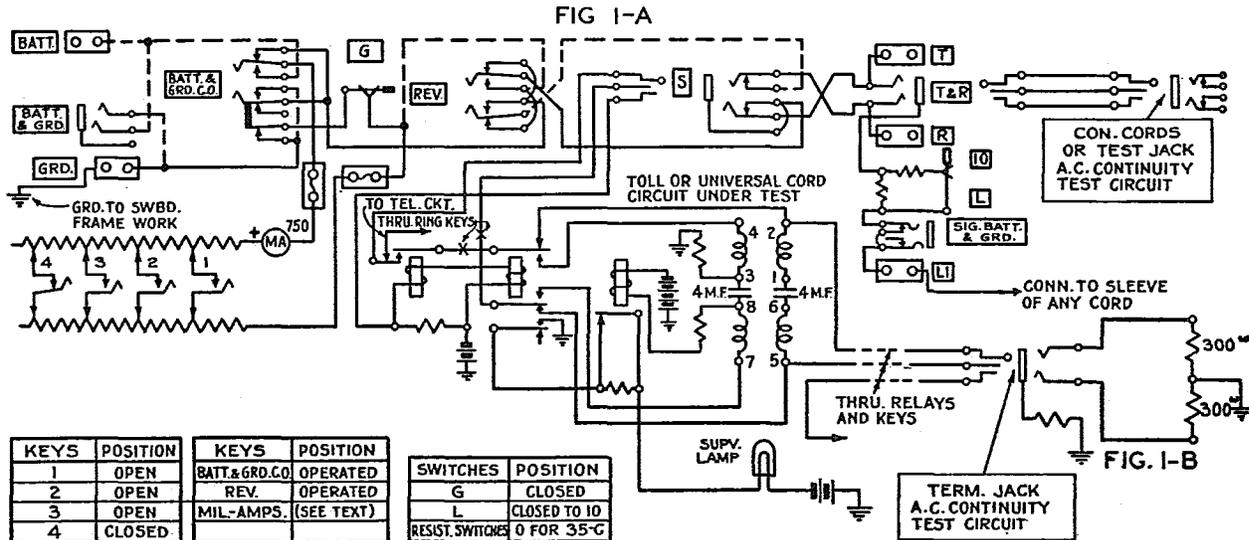

Fig. 1
Note: When the No. K-2232 test set is employed it will be necessary to provide a spare O. G. T. jack wired as shown in Fig. 1-B.
- 3.03 Arrange the test set keys and switches as shown in Fig. 1 for this test.
- 3.04 Provide ground connection to the current flow test set by means of a No. 893 cord connected to the switchboard framework and to the GRD terminal of the test set, as shown in Fig. 1-A.
- 3.05 Provide battery connection to the current flow test set by means of a No. 893 cord connected to the sleeve of any other cord circuit (temporarily removed from service) and to the L1 terminal of the test set, as shown in Fig 1-A.
Note: When the portable type a-c. continuity test set is employed, see note, associated with paragraph 2.02 and Fig. 1-B.